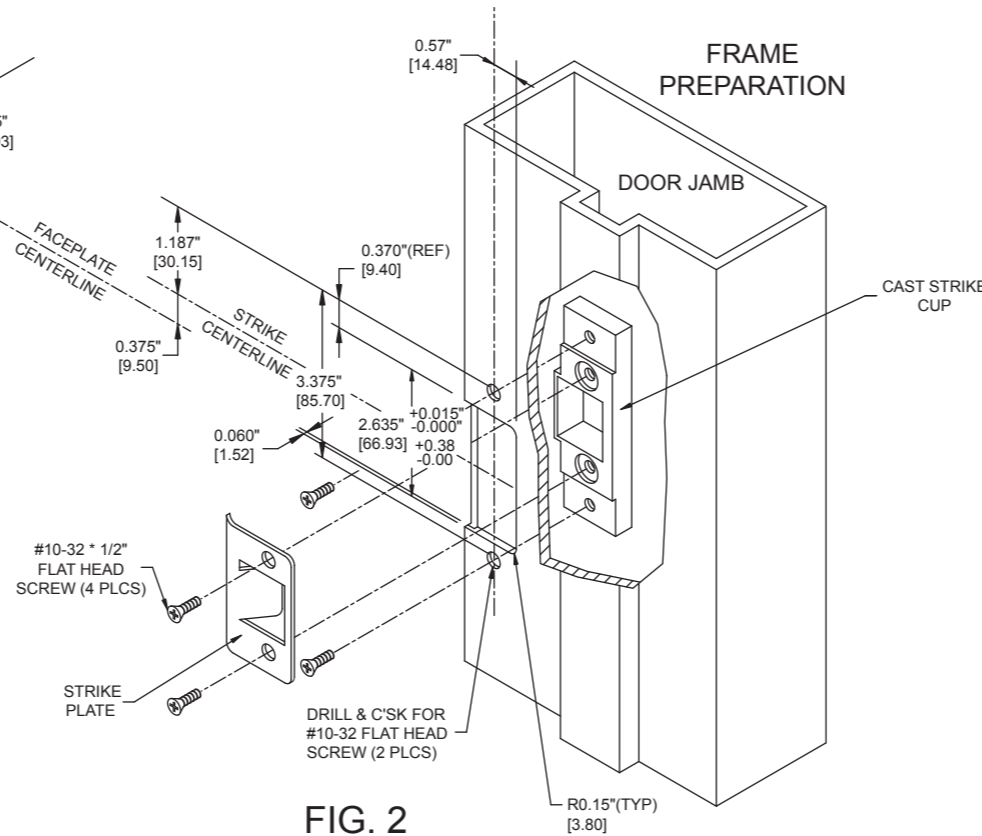

FIG. 2
A. DOOR AND FRAME PREPARATION (Fig. 1 and Fig. 2)
2. Locate and mark the deadlatch strike centerline height. (Refer to Fig 2)
D. STRIKE INSTALLATION (Fig. 2):